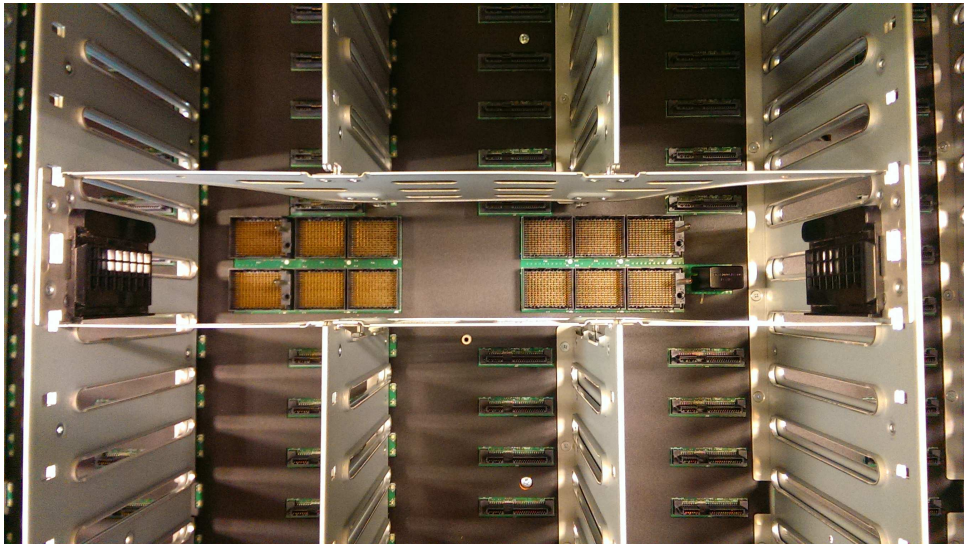

Figure 67. Secondary expander module connectors
**Important:** To avoid electric shock after you remove the secondary expander module, do not touch the connectors inside the enclosure (FRU P/N 01LJ112), which are shown in Figure 67.